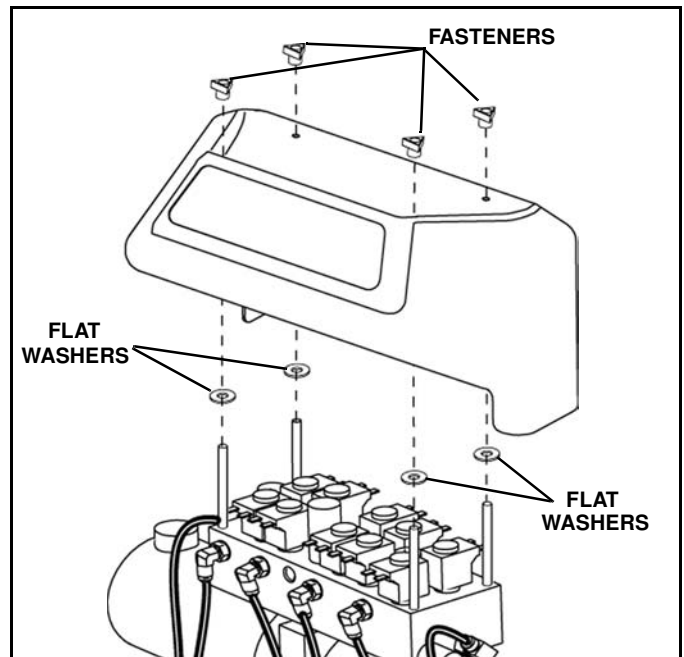

Figure 1-20
26. Ensure that a flat washer is on top of each of the four power unit cover studs and install the cover. Secure with four plastic fasteners. (See Figure 1-20).